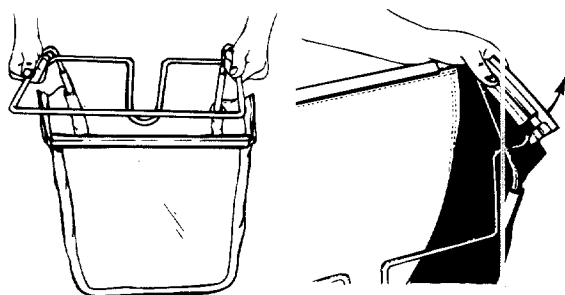

FIGURE 4.
2. Slide the ends of the front frame assembly into the ends of the rear frame as shown in figure 4.
3. Slip the openings in the side of the plastic channel on bag over hooks on the grass catcher frame. See figure 4.